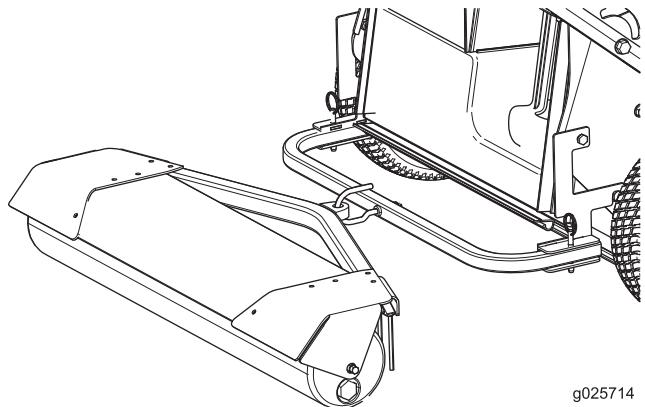

Figure 4
7. Attach the lawn striping trailer to the hook (Figure 4).